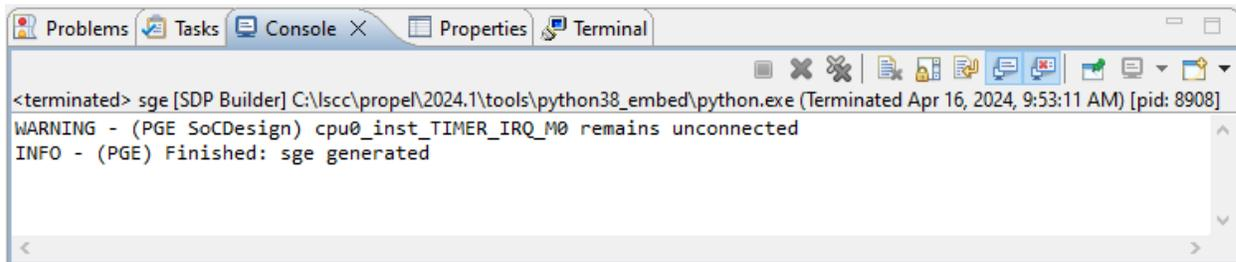

Figure 3.18. Build Result of SoC Project
3. Check the building result in the **Console** view (Figure 3.18).